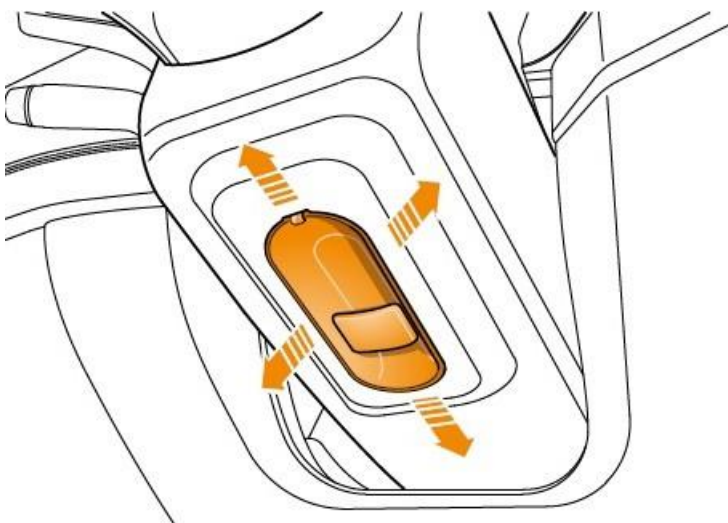

Figure 1
3) Referring to Figure 1 - Conduct the initialisation procedure using the column mounted switch (as follows):